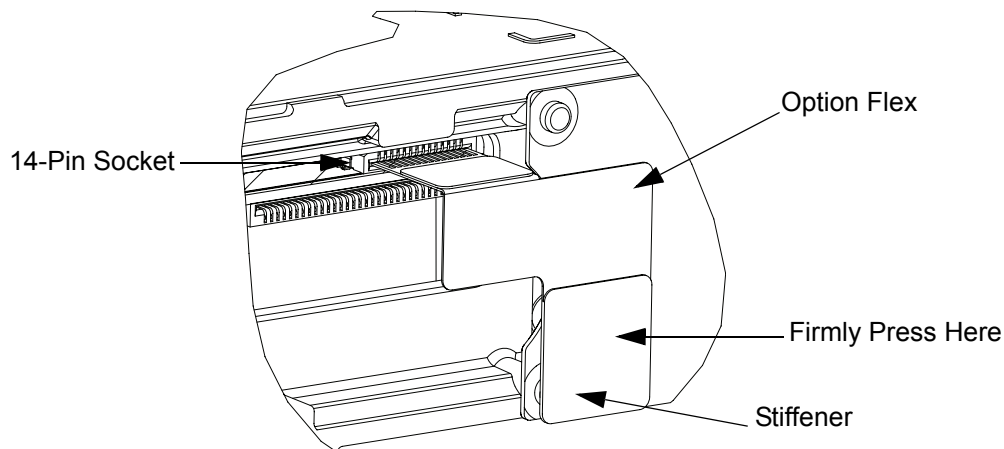

Figure 5-65 Inserting Option Flex End
4. Firmly press the stiffener backing on the option flex until connectors are fully seated. Also make sure option flex end gets fully inserted into 14-pin socket on the radio board. Refer to Figure 5-65.